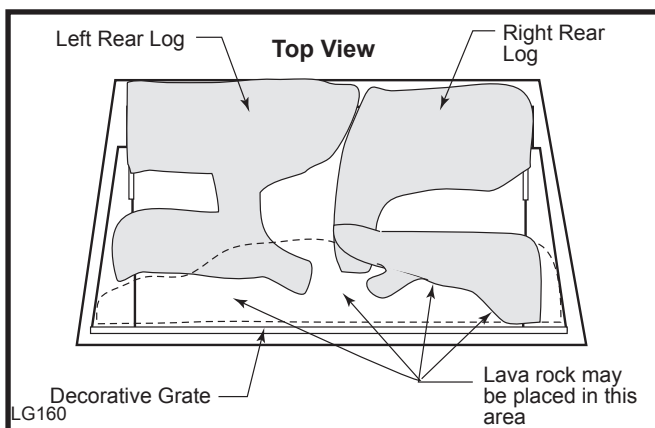

Fig. 25 Lava rock placement.
5. Loosely sprinkle the lava rocks directly on top of the burner just behind decorative grate. (Fig. 25) Use the lava rock to cover brackets on the burner. Do not place lava rocks toward back of burner. The lava rock is shipped inside the bag assembly.